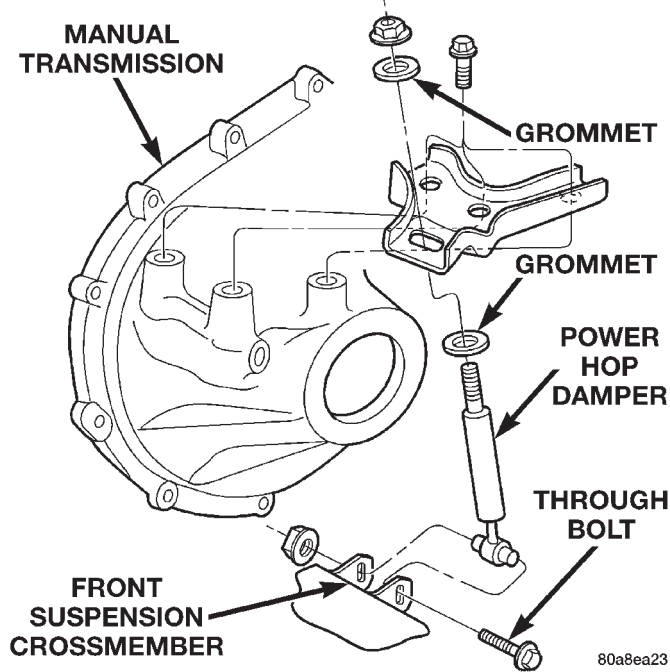

Fig. 14 Power Hop Damper
- (1) Remove the thru-bolt and nut from the front suspension crossmember (Fig. 14).
- (2) Remove the damper nut and grommets. Remove the damper.
- (3) Remove the power hop damper bracket, if necessary.
- (4) Reverse removal procedure for installation. Tighten all bolts and nuts to 54 N·m (40 ft. lbs.)